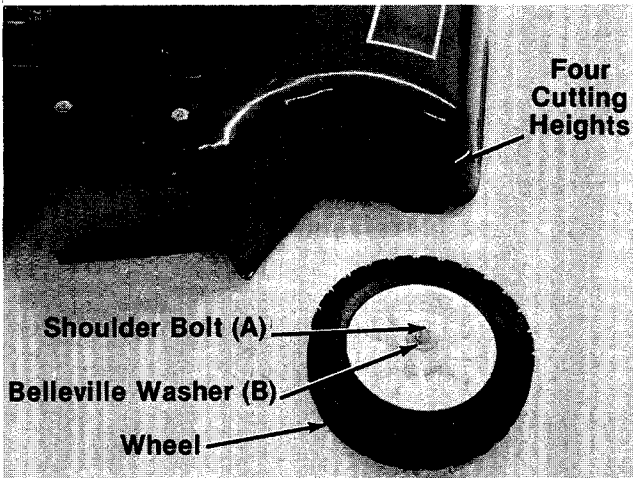

FIGURE 5.
8. Your mower has four height settings. Use the same mounting hole for all four wheels when assembling. See figure 5.
- A. Place shoulder bolt (A) through wheel. See figure 5.
- B. Place cupped side of belleville washer 7/8" O.D. (B) towards the deck (away from wheel). See figure 5.
- C. Place shoulder bolt through desired mounting hole on deck. Secure with belleville washer 1-1/8" O.D. (C) (cupped side goes against the deck) and hex nut (D).